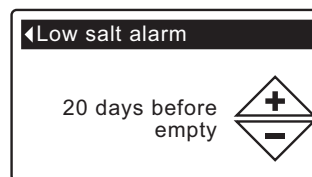

FIG. 32
5. Press the OK/MENU button to display the Low salt alarm screen (See Figure 32).